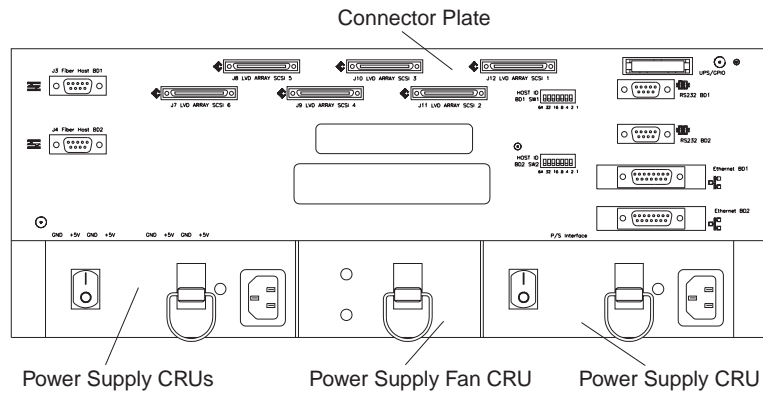

Figure 3. Back View of Controller Unit
The back of the controller unit has the following primary components (Figure 3):
- **Connector plate** – a protective panel that contains access holes for interface connectors and jumpers. See Figure 3.